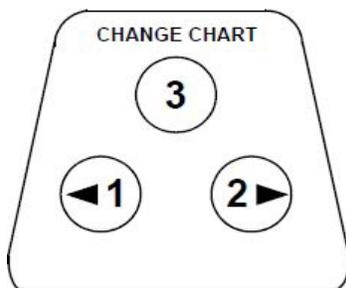

Figure 13. Chart Buttons
2. Press and hold the change chart button (#3 in *Figure 13*) for one second. The pen will move off the scale.
3. Compare the recorder temperature to the solution temperature. If necessary, adjust the recorder by pressing the left and right chart buttons (#1 and #2 from *Figure 13*) for five seconds.